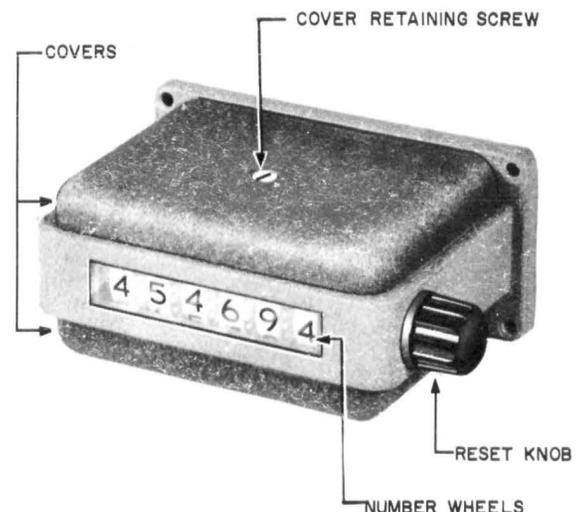

Fig. 1 - KS-14359 Magnetic Counter
4. To add figure showing KS-14359 magnetic counter (Fig. 1).